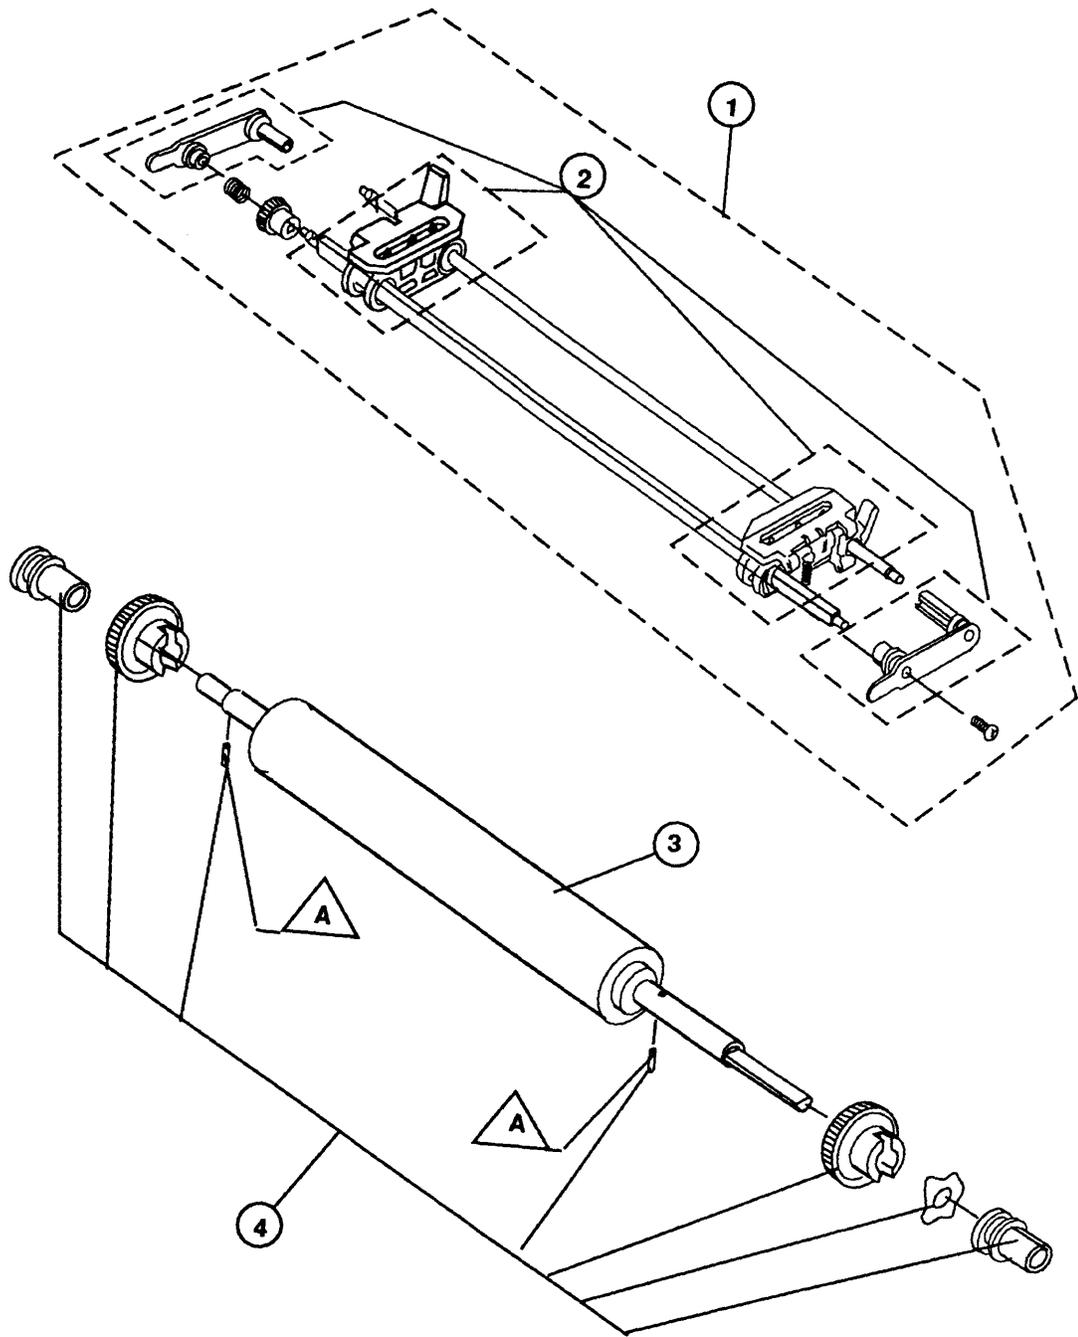

Figure 3
- IPL.9 Platen and Tractor Assemblies, Top View (Figure 3)
□ **PLATEN AND TRACTOR ASSEMBLIES, TOP VIEW (Figure 3)**